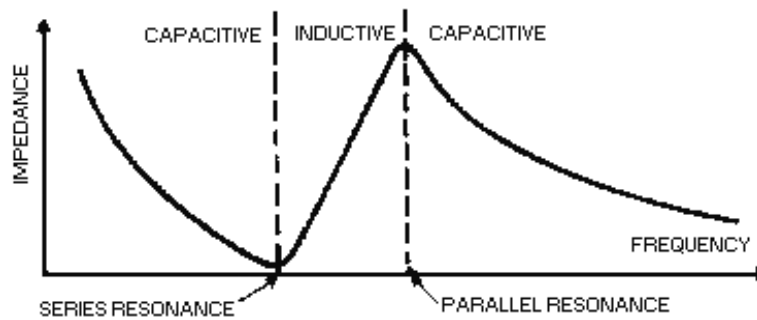

Figure 2-21.—Frequency response of a crystal.
At some frequency, the reactances of equivalent capacitor C1 and inductor L will be equal and the crystal will act as a series-tuned circuit. A series-tuned circuit has a minimum impedance at resonance (figure 2-21). Above resonance the series-tuned circuit acts **INDUCTIVELY**, and below resonance it acts **CAPACITIVELY**. In other words, the crystal unit has its lowest impedance at the series-resonance frequency. The impedance increases as the frequency is lowered because the unit acts as a capacitor. The impedance of the crystal unit also increases as the frequency is raised above the series-resonant point because the unit acts as an inductor. Therefore, the crystal unit reacts as a series-tuned circuit.
Since the series-tuned circuit acts as an inductor above the resonant point, the crystal unit becomes equivalent to an inductor and is parallel with the equivalent capacitor C_1 (view (B) of figure 2-20). At some frequency above the series-resonant point, the crystal unit will act as a parallel-tuned circuit. A parallel-tuned circuit has a MAXIMUM impedance at the parallel-resonant frequency and acts inductively below parallel resonance (figure 2-21). Therefore, at some frequency, depending upon the cut of the crystal, the crystal unit will act as a parallel-tuned circuit.